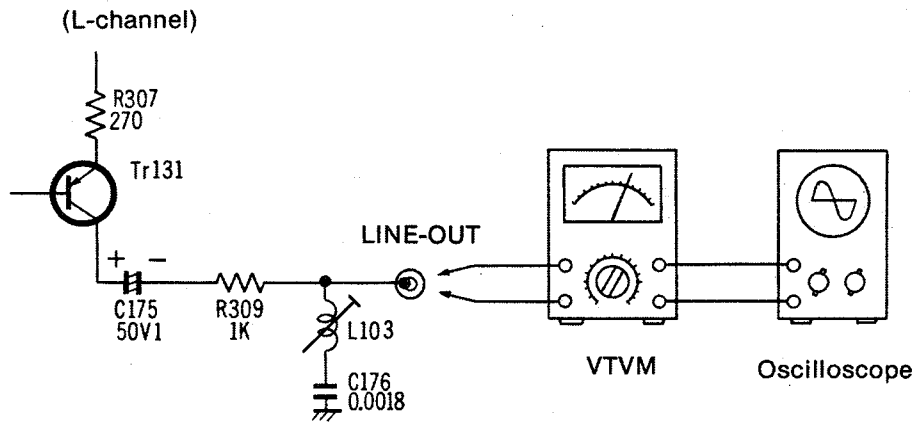

Fig. 41
1. Test equipment connections are shown in fig. 41.